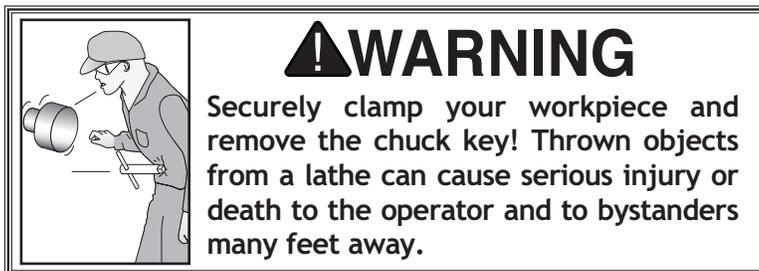

Figure 32. Clamping workpiece.
3. Position and lock the tailstock, then turn the tailstock quill so the dead center makes contact or is close to the center point of your workpiece (see **Figure 32**).